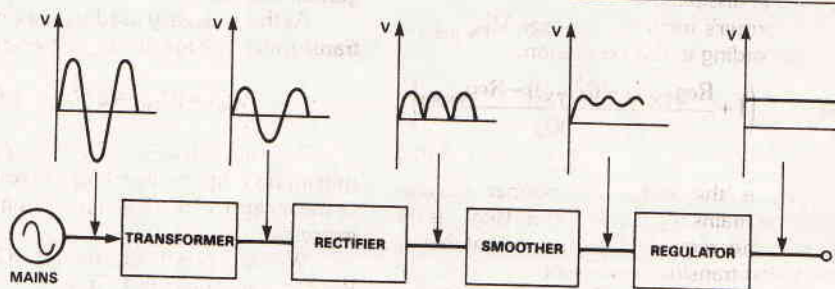

Fig. 1 Block diagram of a power supply showing waveforms at various stages
Purpose of a power supply is to convert a mains supply (240V AC in the UK) to a lower DC voltage or voltages. Simply, this involves four basic steps (1) transforming to a lower voltage (2) rectifying (3) smoothing (4) regulating. Figure 1 is a block diagram of a power supply, showing how these steps relate and waveforms at relevant points.
Input power is from a mains source. A transformer changes the 240V supply to a lower voltage, still of an AC nature; the difference is shown in the waveforms in Fig. 1. After rectification the waveform appears as a series of humps, each hump corresponds to one half cycle of the original AC voltage. Rectification is usually performed with diodes. Although the waveform is now of a DC voltage, it is too irregular to be useful and so must be smoothed, generally using a capacitor, to give a more level DC voltage. This value is, however, rather dependent on the current drawn from the circuits at this point so regulation is performed to maintain a constant DC voltage.